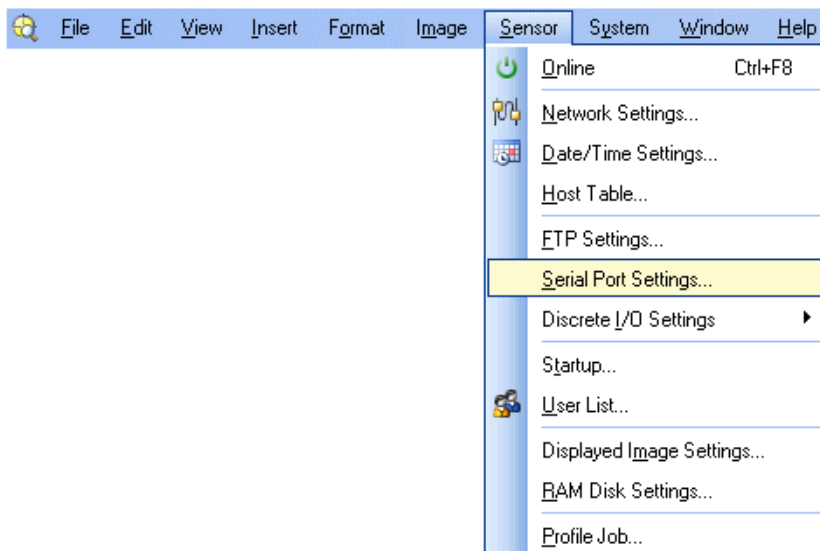

Figure A-3: Accessing the Serial Port Settings
2. From the Sensor menu (Figure A-3), select Serial Port Settings.